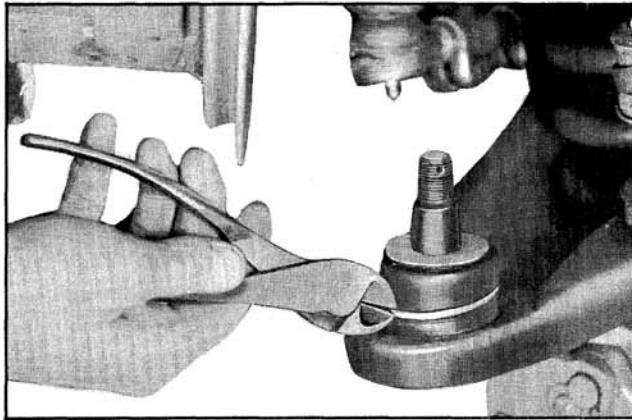

Fig. 9-23A Removing Ball Joint Seal Clamp
3. For Saginaw joints, cut seal retaining ring from ball joint. For Inland joints, pry seal off ball joint and discard seal assembly. (Figs. 9-23A and 9-23B)